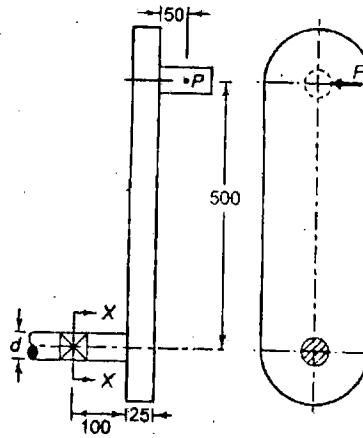

Fig.11(a)
11. (a) The dimensions of an overhang crank are given in figure 11(a). The force P acting at the crank pin is 1 kN. The crank is made of steel 30C8 and factor of safety is 2. Using maximum shear stress theory of failure, determine the diameter 'd' at the section XX